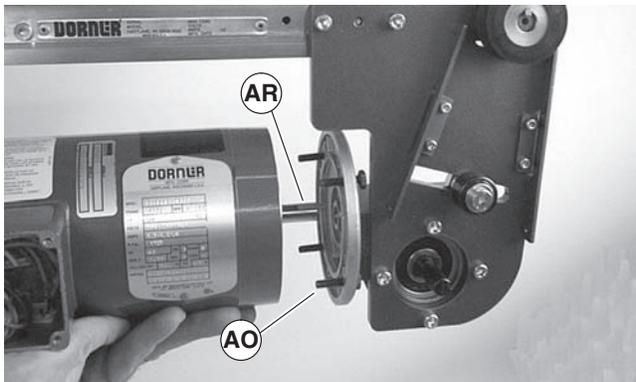

Figure 34
- With key (Figure 34, item AR) in keyway, slide motor and gear reducer together. Install screws (AO) and tighten.